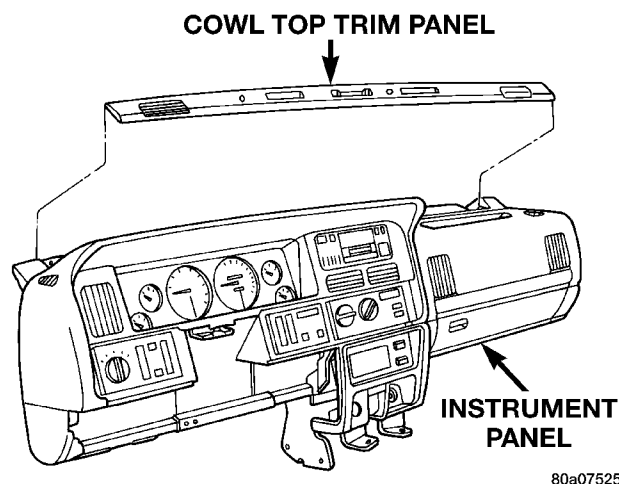

Fig. 9 Cowl Top Trim Remove/Install
(1) Disconnect and isolate the battery negative cable.
(2) Using a trim stick or another suitable wide flat-bladed tool, gently pry the cowl top trim panel off of the instrument panel top pad (Fig. 9).